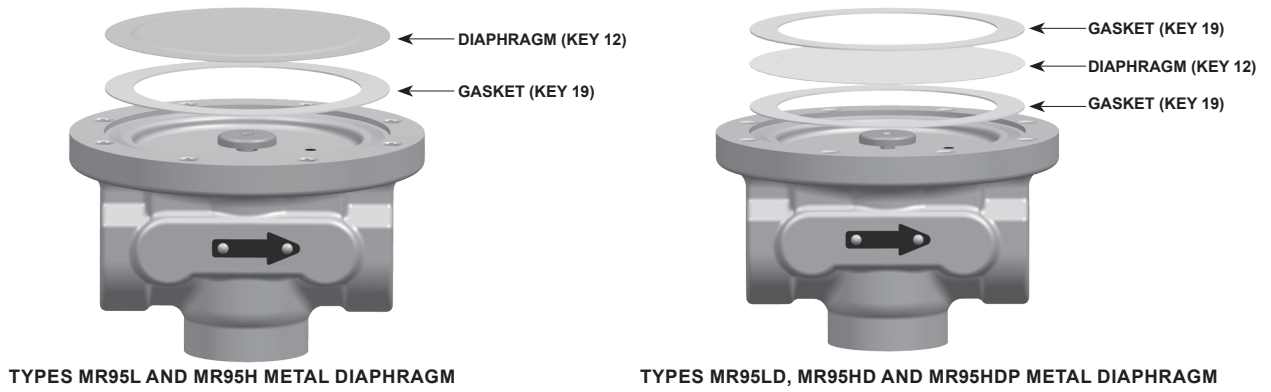

Figure 4. Diaphragm Assembly for MR95 Series with 1/4 NPT and 1/2 to 1 in. / DN 15 to 25 Body Sizes
The regulator does not have to be taken out of the pipeline to be disassembled. All key numbers are referenced in Figures 4 to 10.
9. With diaphragm(s) (key 12) removed, ensure the pressure registration hole (pitot tube, key 20, in 3/4 in. / DN 20 and larger body sizes) is completely open and free of all obstructions.
10. If the unit has metal diaphragms (see Figures 4 and 5):
- a. (Applicable only for the lower diaphragm head of Types MR95H, MR95HT, MR95HD and MR95HDP, 1-1/2 and 2 in. / DN 40 and 50.) Find the pusher post (key 10) and place on a surface with the larger flat surface down and the thread stem up (metal diaphragm pusher post has a recessed diameter in the bottom surface). Then, find one smaller composition gasket (key 29) and fit it over the threaded end of the pusher post. Find and take one of the diaphragm heads and slip it over the threaded end of the pusher post with the chamfered side of the diaphragm head toward the gasket. Take a second gasket and place it over the threaded end of the pusher post on top of the diaphragm head.